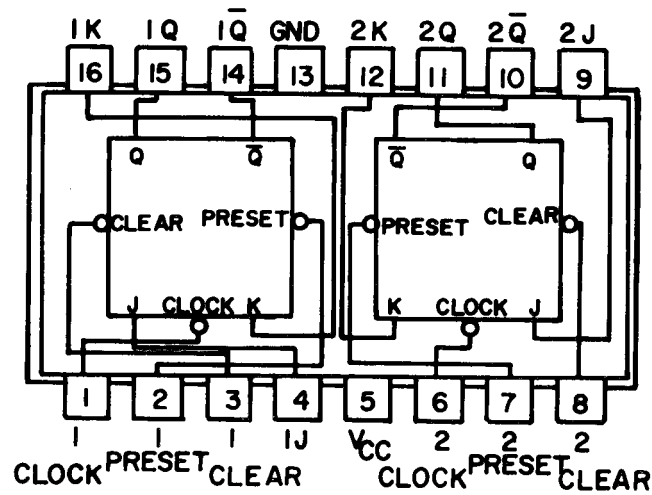

Figure 1-36. Dual J-K Master-Slave Flip-Flop.
10. Dual J-K Master-Slave Flip-Flop with Preset and Clear (SN5476). The J-K flip-flop (fig. 1-36) is based on the master-slave principle. Inputs to the master section are controlled by